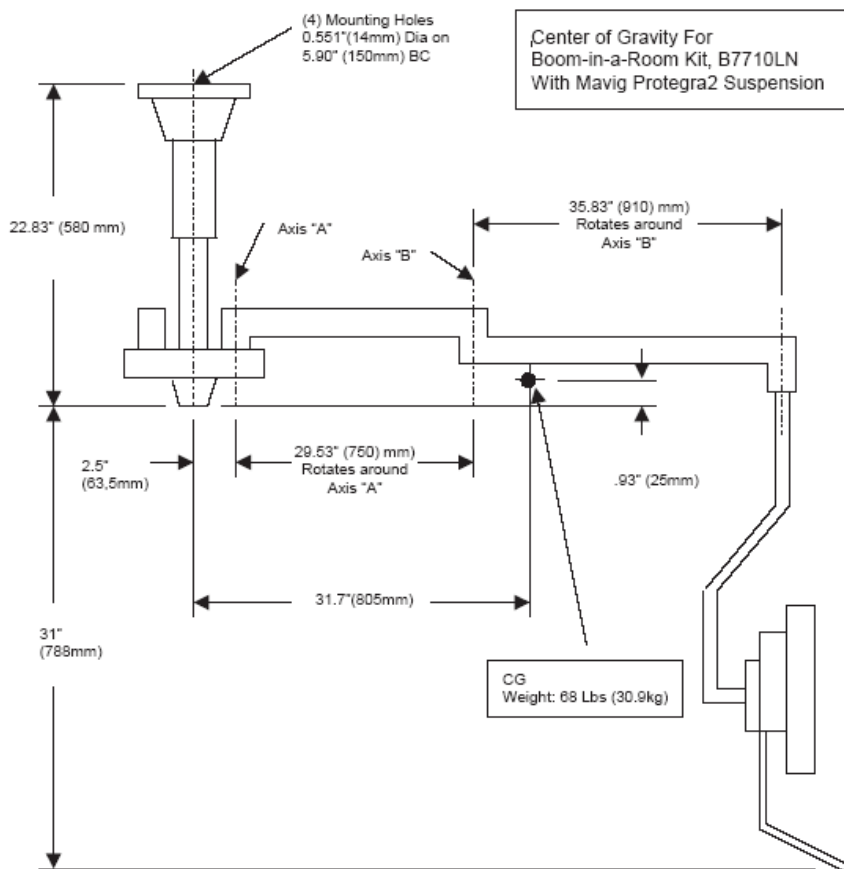

Figure 4-13 Center of Gravity for Boom-in-a-Room Kits, shown on the site print
The pedestal-ceiling mount requires a flush ceiling mounting plate that is structurally supported to handle the weight of the load as shown in Figure 4-13. You can order a Mavig-designed ceiling plate (p/n E8007NZ). This 356 mm x 356 mm (14 in. x 14 in.) plate has pre-drilled 1/2 in. mounting holes in each of the four (4) mounting corners.